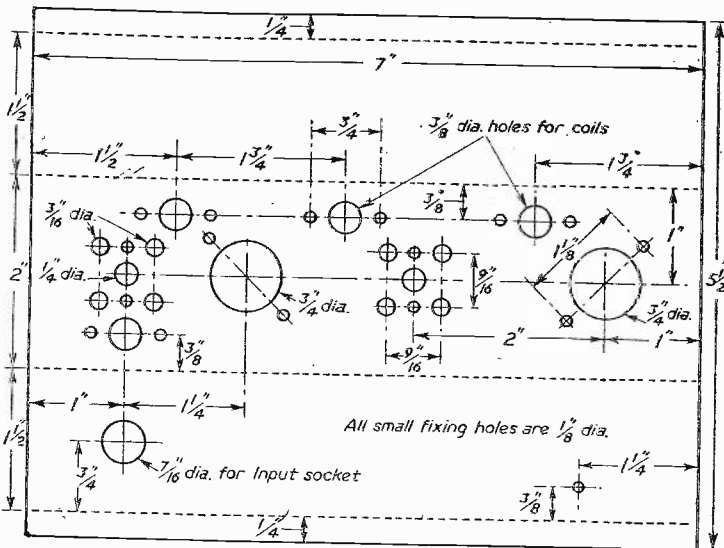

Fig. 4.—Chassis drilling and cutting data.
Fig. 4 shows the main dimensions of the chassis. The valve holes and holes for aerial socket and coils should be drilled before the chassis is bent into shape. The holes for the Haynes coils should be drilled as given in the diagram. Two holes are needed for the retaining bolts and the other holes for the connections.
- Chassis as in Fig. 4.